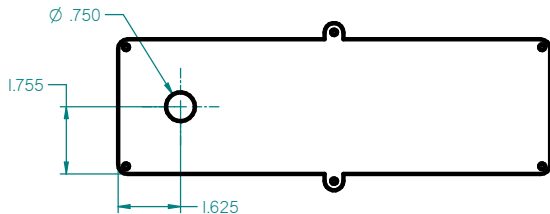
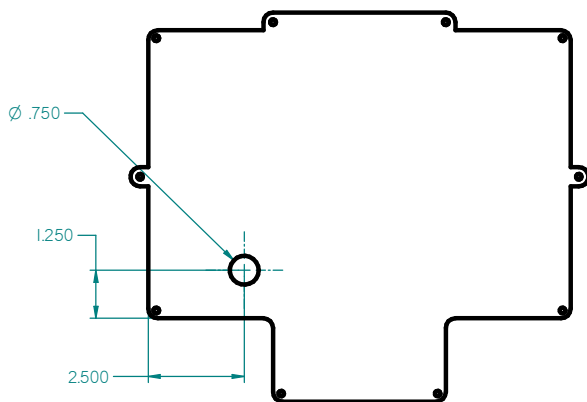

Fig 3a: FLL Rear Plate with Hole
Fig 3b: FXL Rear Plate with Hole
- Remove the Rear Plate and Drill a 3/4" diameter hole on the location shown in Fig 3a for FLL or Fig 3b for FXL.